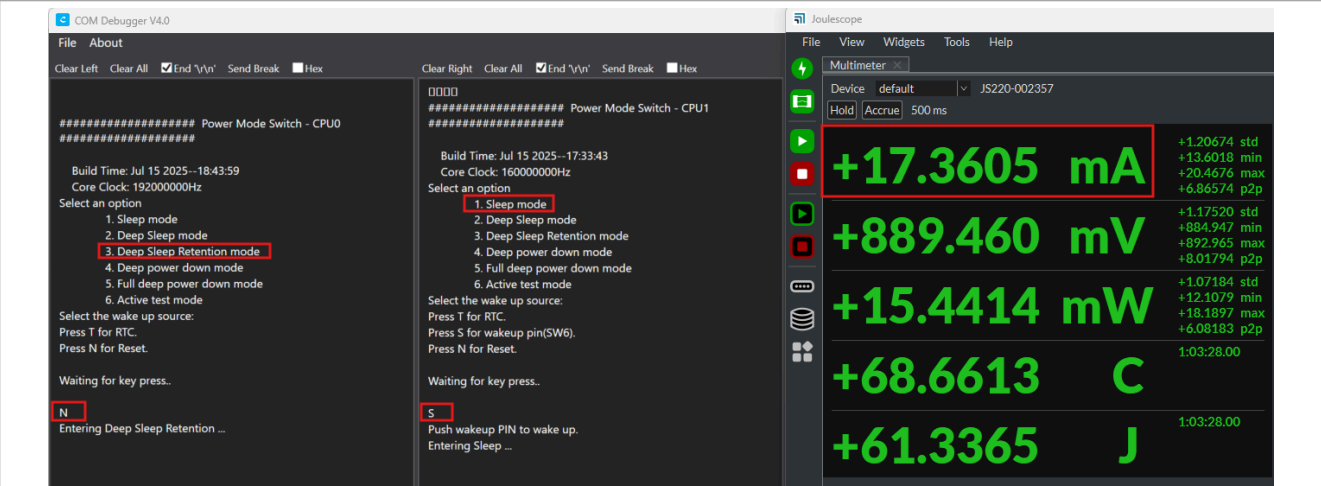

Figure 27. Demo output and power consumption observed on MIMXRT700 EVK
11. After the demo boots successfully, the log from both CPU0 and CPU1 COM ports appears, as shown in Figure 27. The default configuration sets SENSE_DSP_CLK to 160 MHz and VDD1 to 0.9 V. To initiate power-saving modes, input the characters 3 N in the CPU0 COM port to set the Compute domain into DSR mode. Then, input 1S or 1T9 in the CPU1 COM port to transition CPU1 CM33 into Sleep mode, while HiFi1 continues running an FFT operation. To observe the power consumption of VDD1, as illustrated in Figure 27, measure the JP3 current on the MIMXRT700 EVK board. For accurate power measurements, use tools such as Joulescope or any other reliable digital multimeter.